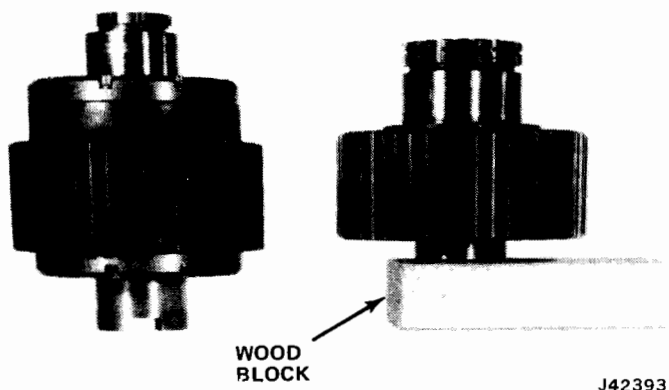

Fig. 8-42 Differential and Drive Sprocket Positioned for Chain Installation
(1) Position drive sprocket on wooden block.
(2) Position differential assembly about 2 inches from drive sprocket and with front end of differential on bench (fig. 8-42).